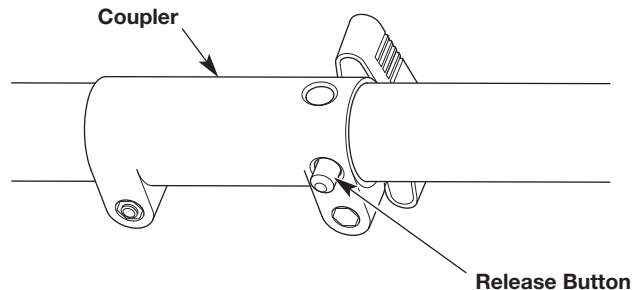
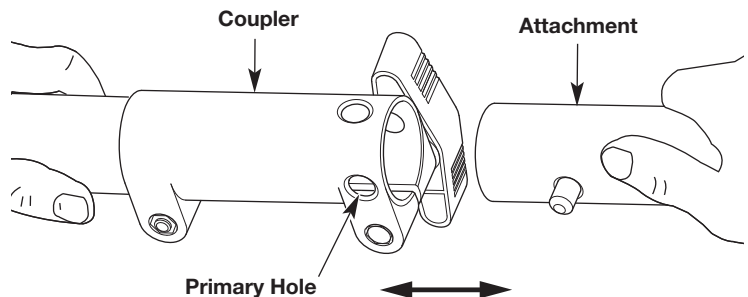

Fig. 4
Fig. 5
4. Push the attachment straight into the coupler (Fig. 5) until the release button snaps firmly into the primary hole (Fig. 4).
3. Press and hold the release button (Fig. 4).
4. Pull the attachment straight out of the coupler (Fig. 5).